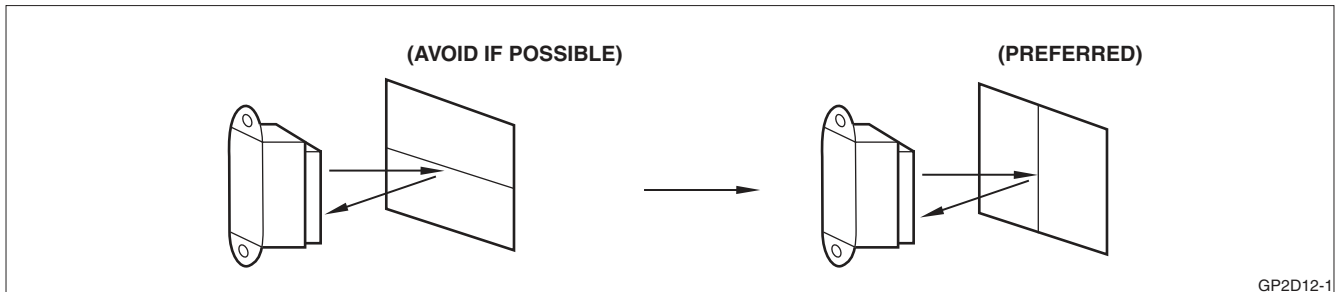

Figure 6. Proper Alignment to Surface Being Measured
- If a prominent boundary line exists in the surface being measured, it should be aligned vertically to avoid measurement error. See Figure 6 for further details.